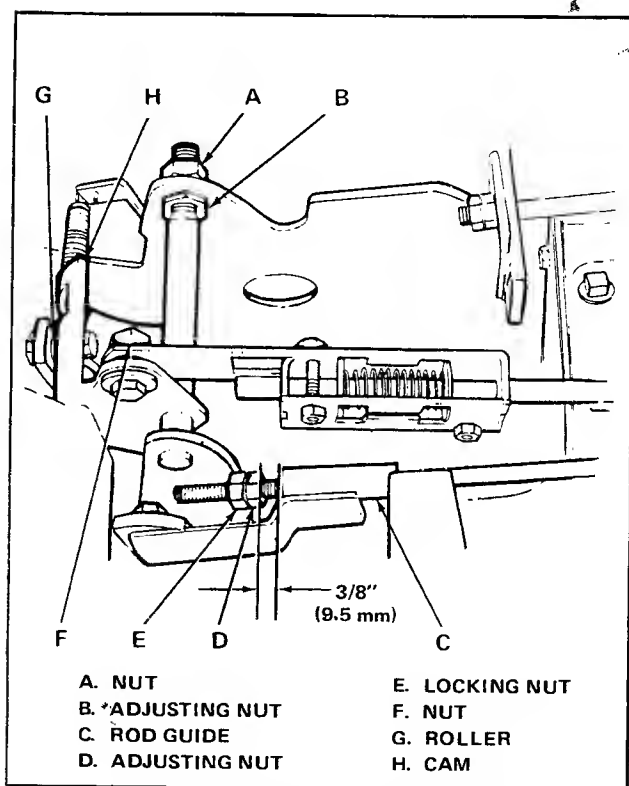

Figure 17. Clutch Free Travel and Transmission Neutral Adjustments
If the main drive belt does not engage or disengage properly, the clutch free travel may be incorrectly adjusted. To check the clutch free travel, raise the seat deck. Then pull the clutch-brake pedal fully up and back and measure the gap between the nut (item D, figure 17) and the rod guide (item C). If this gap is not  $\frac{3}{8}$  inch (9.5 mm), adjust the clutch-brake travel as follows:
1. Loosen the two nuts (items D and E, figure 17).
3. Check roller (item G, figure 17). The roller should be centered on the neutral mark of the cam (item H). If it is, proceed directly to step 7. If it is not centered, continue to step 4.
10. Loosen nut (item A, figure 17).